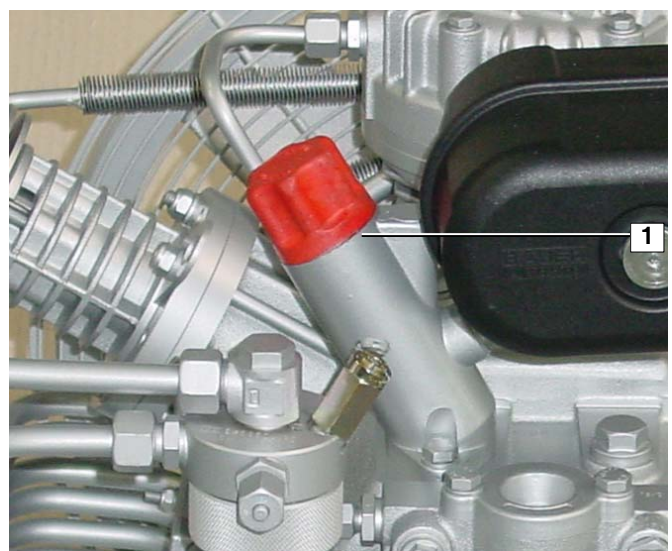

Fig. 29 Oil filler neck
- Remove red cap from oil filler neck (1, Fig. 29).